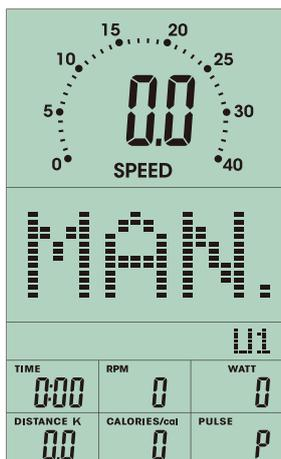

FIGURE 8
1. The program selections available are MANUAL → PROGRAM → USER PROGRAM → H.R.C. → WATT (FIGURE 8~12)